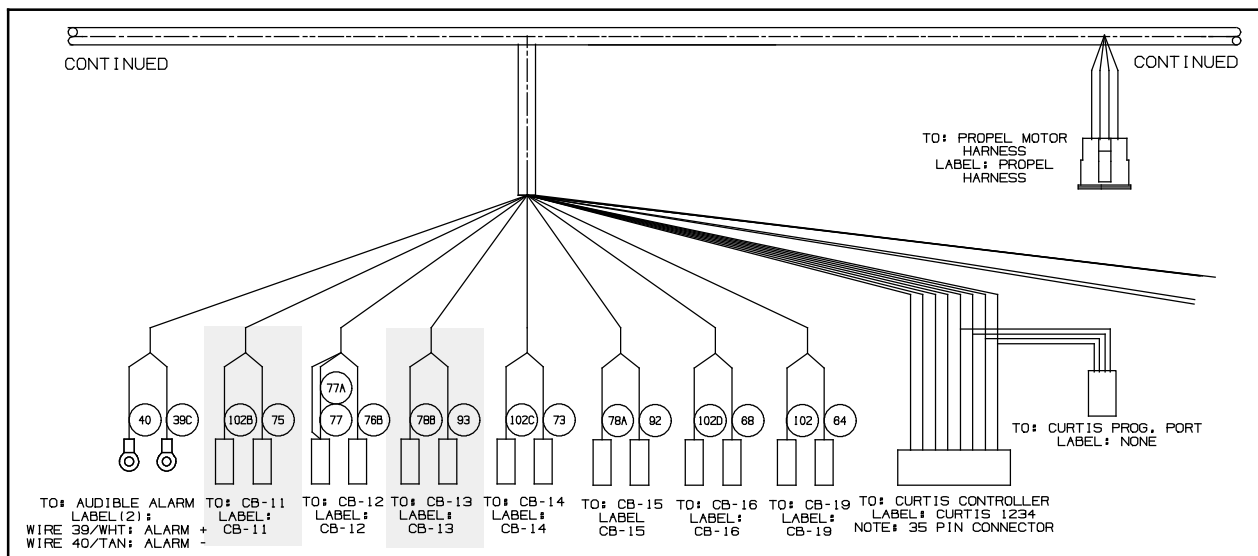

FIG. 8
20. Connect the main wire harness to the 2.5 Amp circuit breaker (16) and 15- Amp circuit breaker (15) installed in the previous steps. (Fig. 7 / Fig. 8)